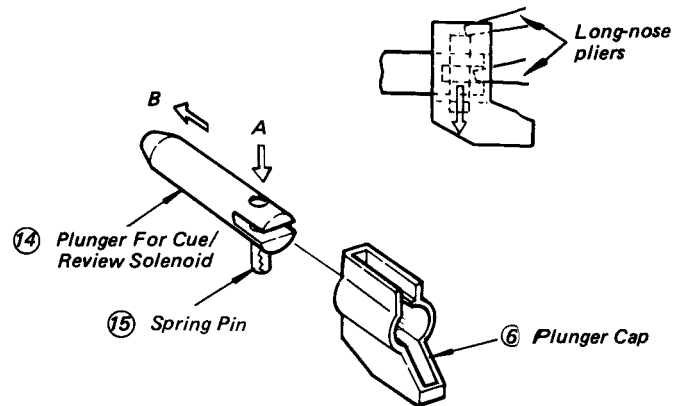
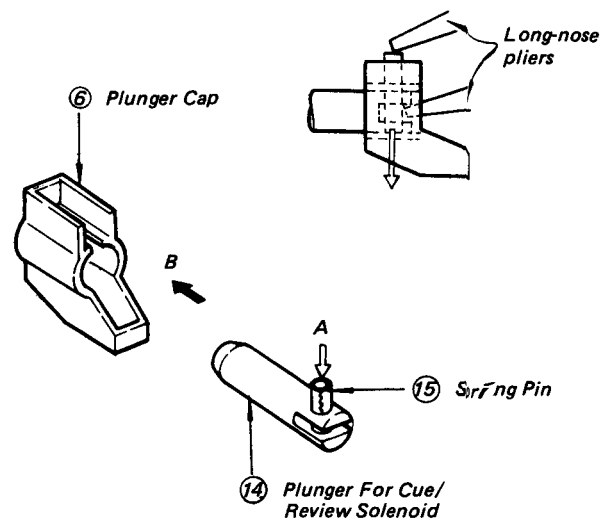

Fig. 5-82 Plunger Removal
Fig. 5-83 Plunger Installation
2. Remove the screw (13) holding the lift arm holder (3).
3. Take out the lift arm holder (3) for removal.
4. Remove the two screws (12) holding the cue/review solenoid (4) body.
5. Replace the cue/review solenoid (4) body.
6. Push the spring pin (15) in the direction A (↓) into the plunger (14) of the cue/review solenoid using a long-nose pliers (see Fig. 5-82).
7. Pull the plunger (14) in the direction B (←) out of the plunger cap (6) for removal.
8. To reinstall, insert the plunger (14) into the plunger cap (6) by pushing in the direction B (→).
9. Then, push the spring pin (15) to the center of the plunger cap (6) by pushing in the direction A (↓) (see Fig. 5-83).
10. Put the cue/review solenoid (4) in position together with the plunger (14).
11. Then, tighten the two screws (12) to temporarily hold them to the planetary gear unit assembly (1).
12. Tighten the screw (13) to hold the lift arm holder (3) with the lift arm fitted with the plunger cap (6).